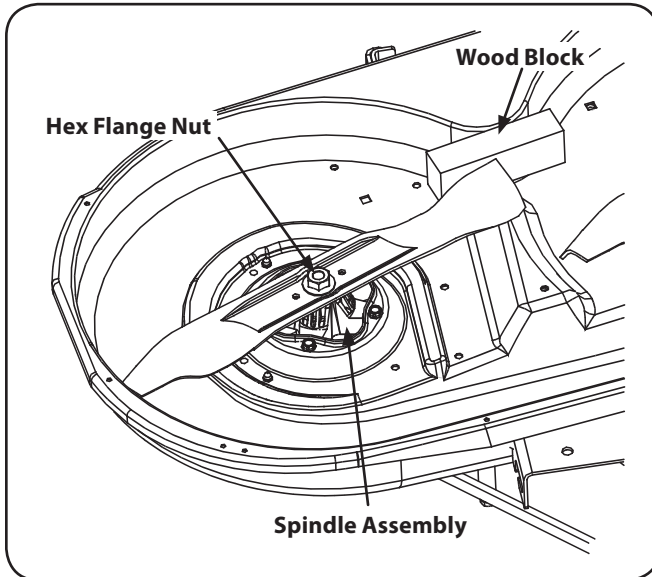

Figure 7-7
- Use a  $\frac{15}{16}$ " wrench to hold the hex nut on top of the spindle assembly when loosening the hex nut securing the blade. A block of wood may be placed between the deck housing and the cutting edge of the blade to help in breaking loose the hex nut securing the blade. See Fig. 7-7.